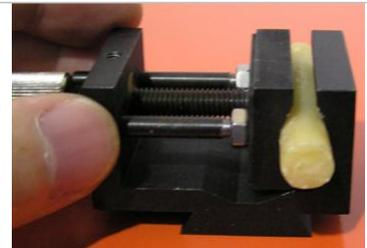

Fig. 3c
- (3) Mount rod sample into the vise and tighten it by a screw (Fig. 3c)